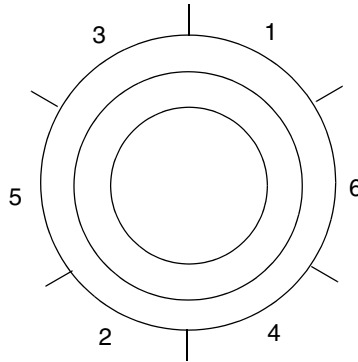

Figure 7. Welding Procedure
2. Weld the spud mounting ring in sections as indicated in Figure 7.
3. Tack weld using the welding sequence shown in Figure 7. Cool each section with water until the temperature is below 700°F (370°C) before proceeding to the next section.
2. Tack weld using the welding sequence shown in Figure 7. Cool each section with water until the temperature is below 700°F (370°C) before proceeding to the next section.